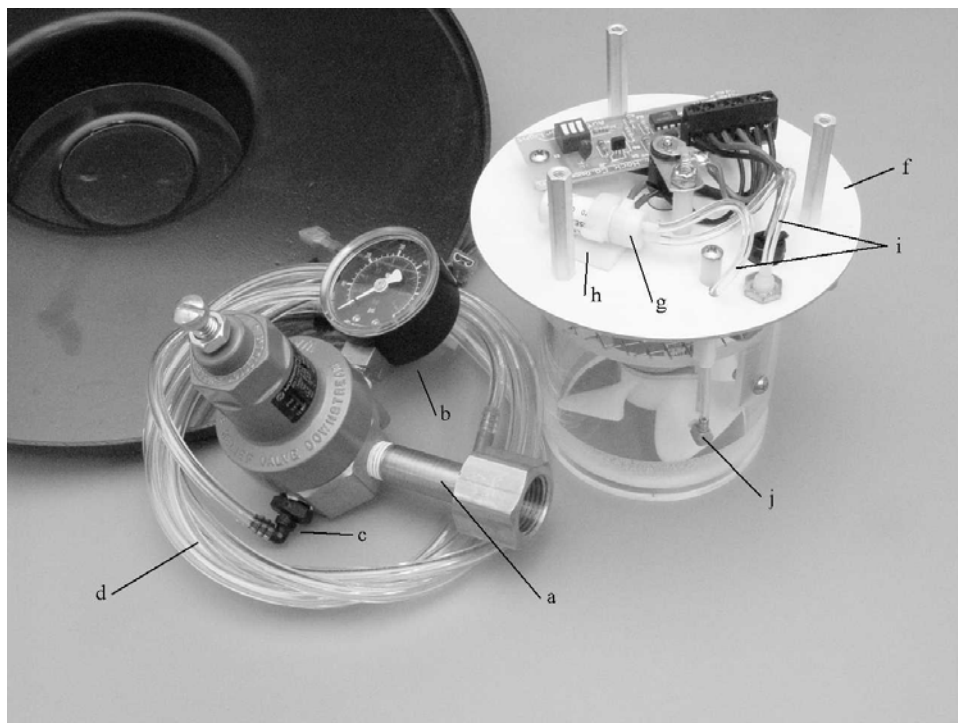

Figure 1. View of Photocell-controlled CO2 release system with regulator.
- **Photoswitch operation** is simple allowing the trap to be configured in several ways. Early in 2009 we modified the photoswitch circuit. Table 1 and Figure 1 are for the original version; table 2 and figure 2 are for the newer version. Both are presented here for your convenience. The table below gives the setting and functions. Access the circuit by removing the black rainshield cover (remove the three stainless/plastic cap screws on the top of the rainshield).
- **Table 1 and Figure 1 for original LCS-3 circuit.** This is a one-sided board (all traces on bottom of board).
On right is a close-up of the switch (fig. 1); all switches, 1-3 are in the **closed** position. Pressing the bottom of the white switches and making them flush with the red case by “- OPEN -“ would put the switches in the **open** position. The labels for switches 1-3 are “AUTO,” “MOTOR,” and “LIGHT,” respectively.
If you ordered a Model 1012-CO2, the New Standard Light Trap with the Photocell-Controlled CO2 Release option, you have several additional items (see figure 1, next page):